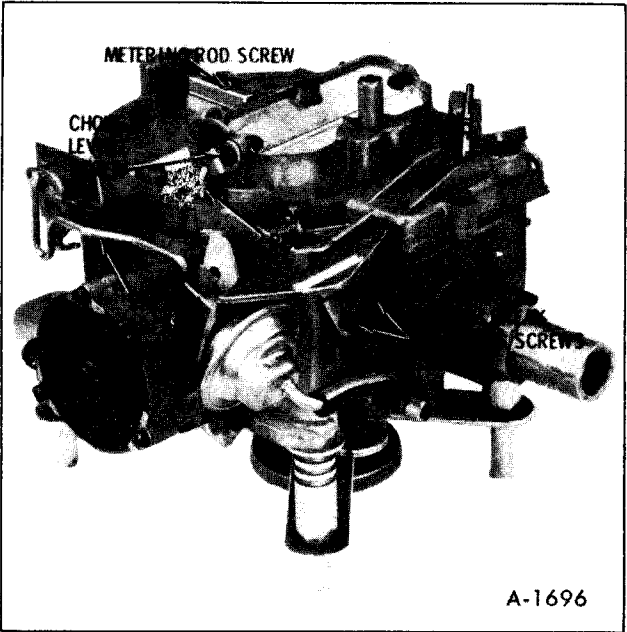

Figure 11–Carburetor Assembly
2. Remove upper choke lever from the end of choke shaft by removing retaining screw (figure 11). Then remove the upper choke lever from the end of choke rod and choke rod from lower lever inside the float bowl casting.